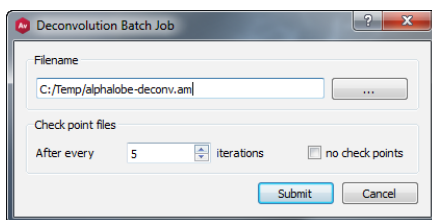

Figure 3.46: Dialog for submitting a deconvolution job.
- Press the *Setup...* button of the *Batch Job* port. A dialog as shown in Figure 3.46 pops up.